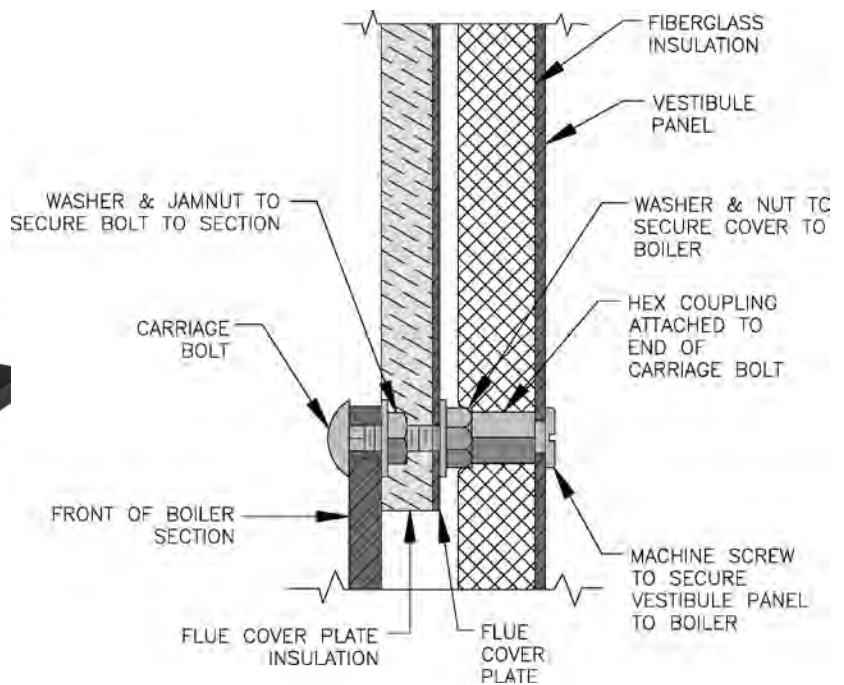

FIG. 11
13. INSTALL FLUE COVER PLATES over cleanout openings on Front and Rear of Boiler. Use 1/4" Carriage Bolts installed at top and bottom of flue openings and secure with washer and jam nut to provide a fixed stud. Install flue cover plates over studs with insulation against Boiler and secure with washers and nuts, see Fig. 11.